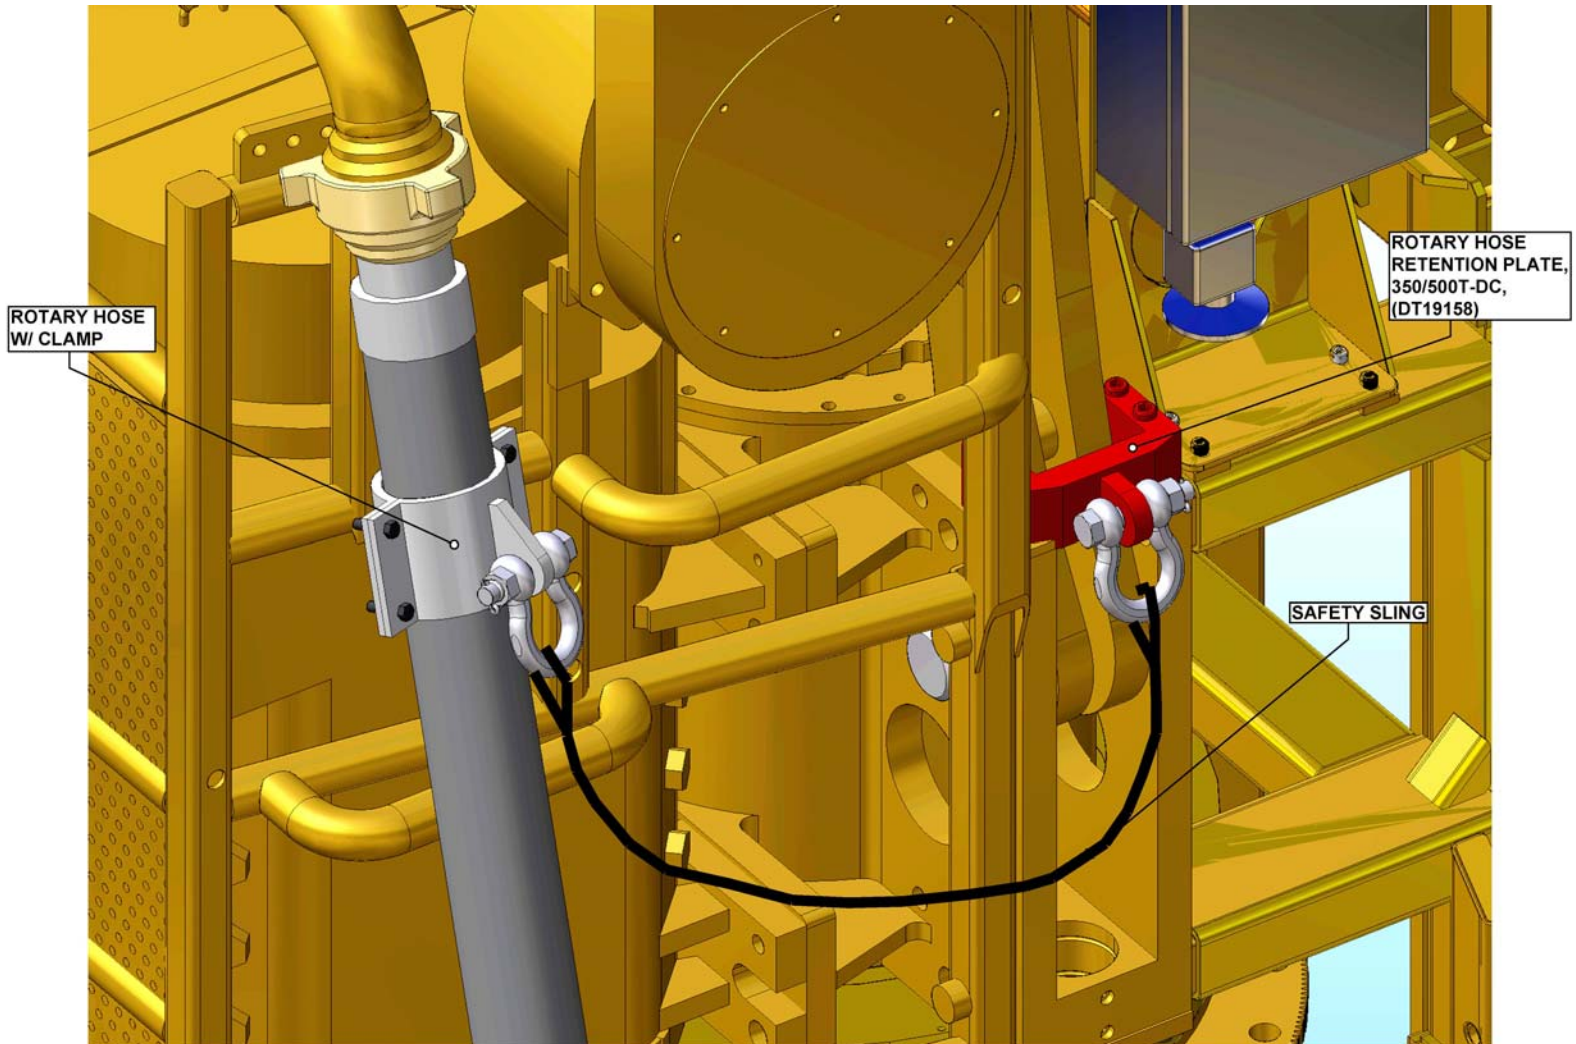

Fig. 4
1. Remove existing Upper Link Retainer with (2) $\frac{3}{4}$ "-10UNC 1 $\frac{1}{2}$ " LG capscrews and replace with Rotary Hose Retention Kit (AY16686) for 350/500T-DC which includes Rotary Hose Retention Plate (DT19158) with (4) $\frac{3}{4}$ "-10UNC x 4" (SH-0750NC-0400-W) capscrews and (4) Nordloc washers (LW-0750-NLS). See Fig. 4.
2. Torque the (4) $\frac{3}{4}$ "-10UNC x 4" (SH-0750NC-0400-W) capscrews to 350 ft-lbs and safety wire with (M21-2000-010) and (M19-3006-010).
4. Install other end of sling to other shackle and install on the Rotary Hose Clamp. Tie-wrap sling to eliminate excess slack with (E03-2000-010). Final assembly should be as shown in Fig. 4.